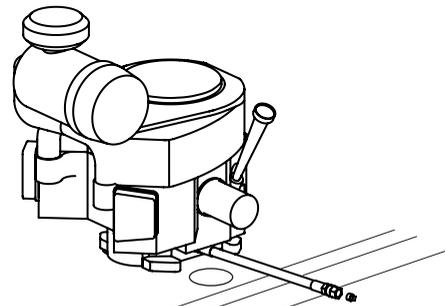

Figure 21
2. Locate the oil drain hose on the engine (Figure 21).
- While holding the free end of the oil drain hose over the oil collection container, unscrew the square-head hose plug from the end of the hose (Figure 21). Drain the engine oil into the collection container.